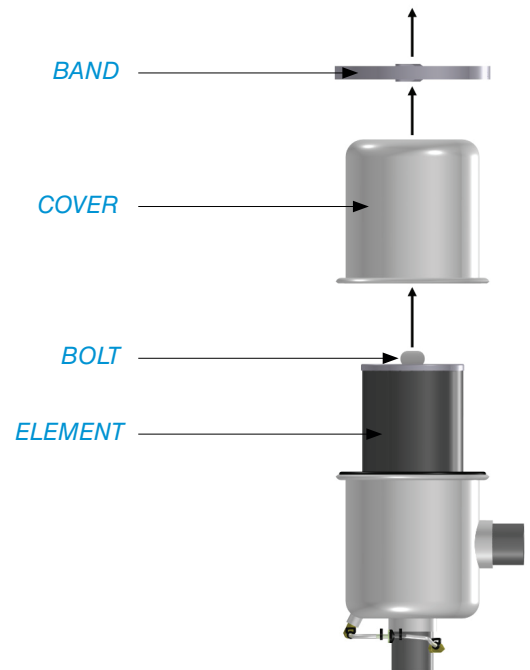

FIGURE 76. S-TYPE EXHAUST FILTER PARTS
1. Loosen band and remove cover, then remove bolt to inspect inside surface for dirt build-up (FIGURE 76).